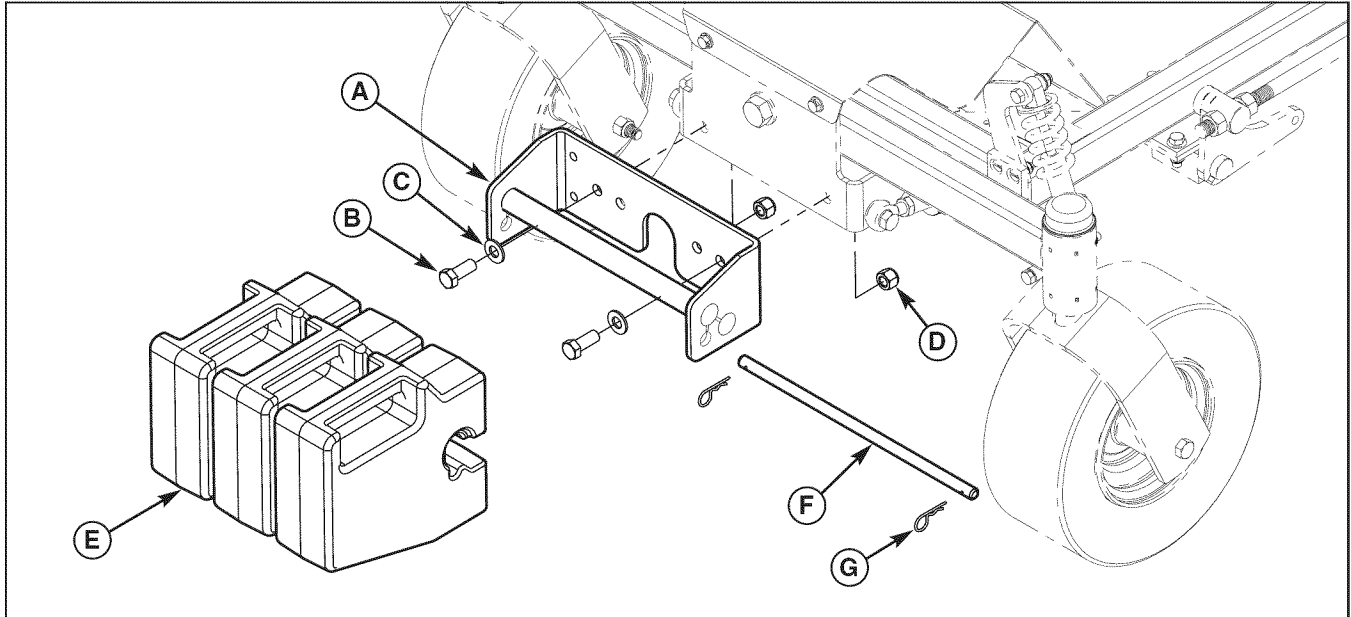

Figure 51. Install Weight Carrier
1. Install the weight carrier (A, Figure 51) onto the front of the unit and secure with the 1/2-20 x 1-1/4" bolts (B), 1/2" washers (C) and 1/2-20 nylon lock nuts (D).